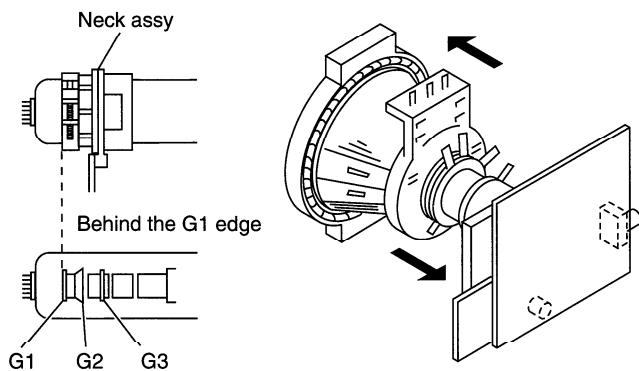

Fig. 4-1
- Position neck ass'y as shown in Fig4-1.